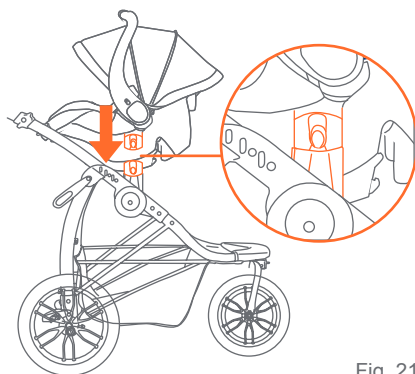

Fig. 21
21) • Attach the car seat by lining up the seat anchors on the side of the car seat with the anchors on the stroller frame and push them together until they lock securely (Fig. 21).